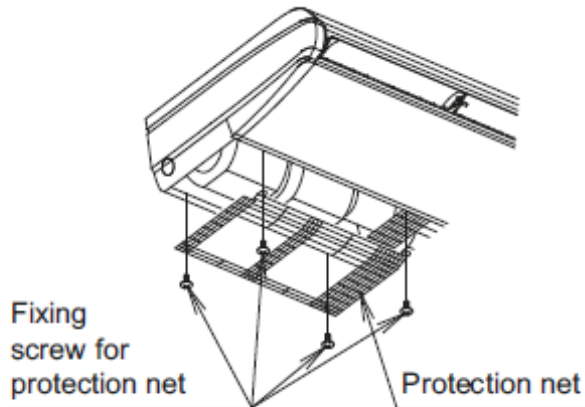

Fig. 21
- After the drain hose installing, attach the protection net by reversing the steps taken to remove it. (Refer to Fig. 21)